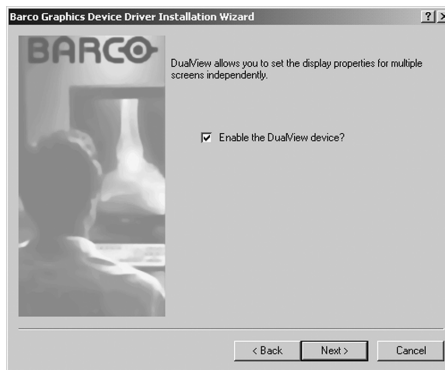

Figure 20
7. Your selection on the "Enable DualView" screen (figure 20 below) determines if DualView is enabled or not. DualView allows a dual head display controller to display two separate desktops, one for each display instead of a single virtual desktop that spans across both displays.